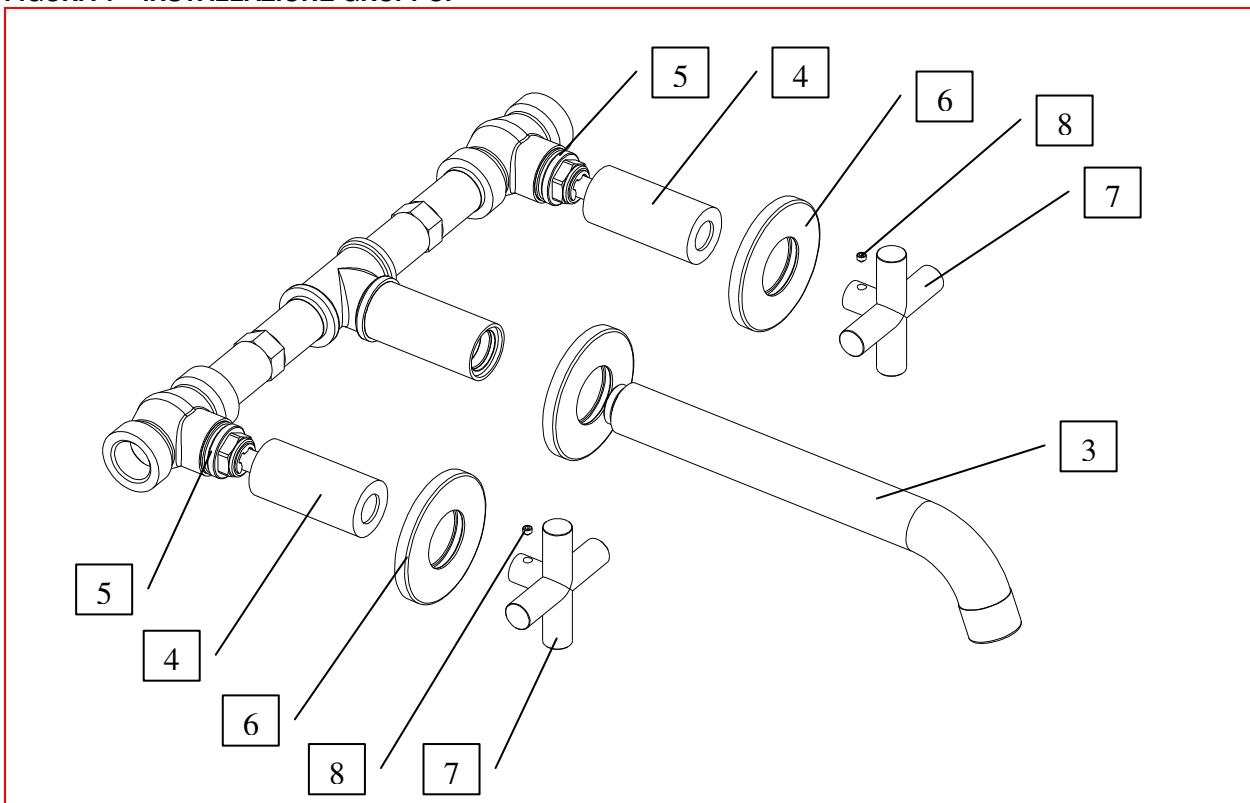

FIGURA 2 – MONTAGGIO BOCCA E FINITURE.
C - DOPO AVER RIMOSSO I COPERCHI DI PROTEZIONE (1) E (2), AVVITARE LA BOCCA (3) AL CORPO INCASSATO, (FIGURA 2) IN MODO DA POSIZIONARLA CORRETTAMENTE CON L'USCITA RIVOLTA VERSO IL BASSO.
G - SVITARE IL GRANO (8), E TOGLIERE LA MANIGLIA (7) (FIGURA 2).